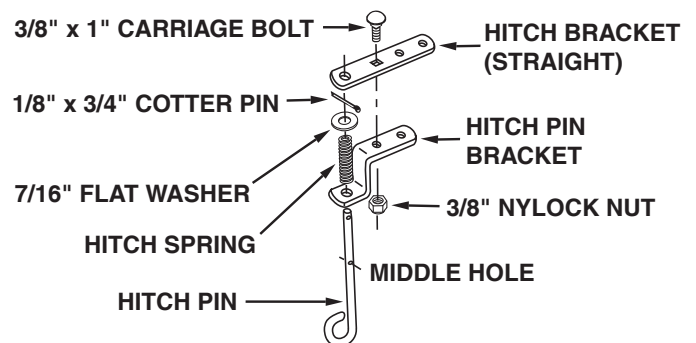

FIGURE 3
7. Assemble the hitch pin bracket, the hitch spring and then the 7/16" flat washer onto the hitch pin. Secure them to the hitch pin with a 1/8" x 3/4" cotter pin placed into the middle hole in the hitch pin. Spread ends of cotter pin around hitch pin. See figure 3.
8. Assemble the hitch pin bracket to the straight hitch bracket using a 3/8" x 1" carriage bolt and a 3/8" nylock nut. Align the brackets and **tighten.** See figure 3.